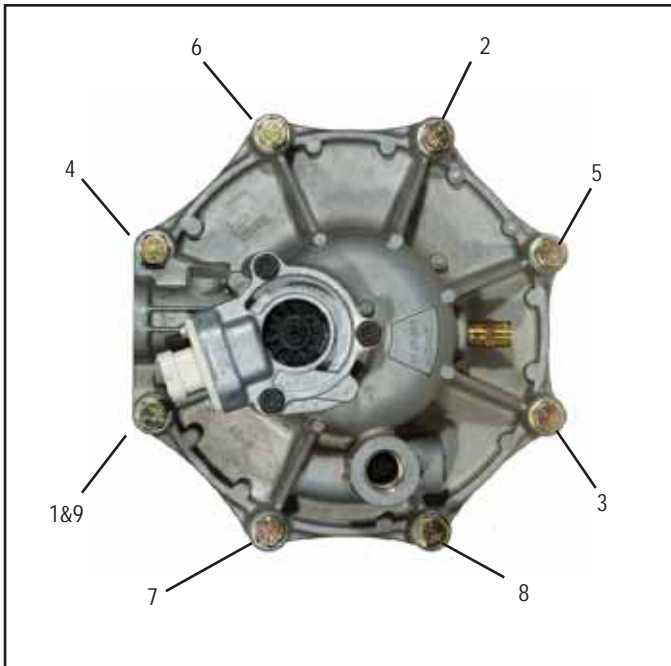

FIGURE 13 - END COVER TO HOUSING TORQUE PATTERN
2. Install the end cover outer housing o-ring on the shoulder in the end cover. Place the housing over the desiccant cartridge and align the holes. Install the six 3/8" cap screws, locknuts and twelve special washers, making certain they are in the proper position as marked during disassembly. The two longer 3/8" cap screws will be used to secure the air dryer to its mounting bracket. Tighten the six cap screws and nuts in a star pattern in a fashion similar to Figure 13; depending on lower bracket location. Torque to 270–385 in. lbs.